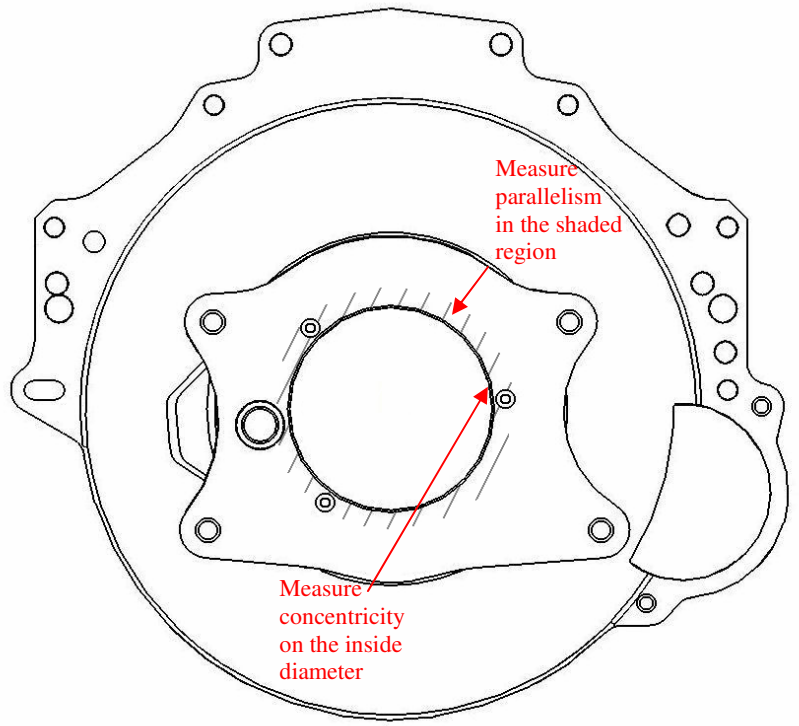

Figure 2: Back view of bellhousing
- With the bellhousing bolted to the engine, check that the transmission mounting face of the bellhousing is parallel to the crankshaft face within .006" total indicated run-out. Clean block mounting surface, making sure that it is free from nicks, burrs, paint, etc. Refer to Figure 2.
- The transmission mounting hole of the bellhousing should be concentric to the crankshaft within .006" total indicated run-out. *The closer, the better.* Refer to Figure 2. If the measurement is not within specification, you will need to relocate the dowel pins in the engine block.